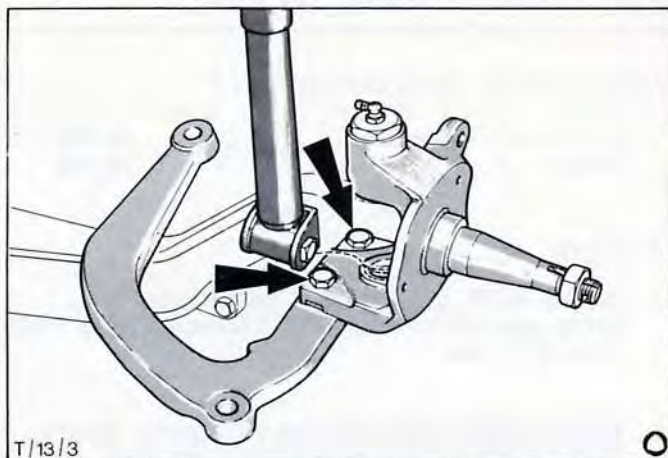

Fig.39. Steering arm fixing bolts (drivers side).
5. Fit clean steering arm to spindle carrier and secure, tighten lock nuts to specified torque (see Technical Data) Fig.39.